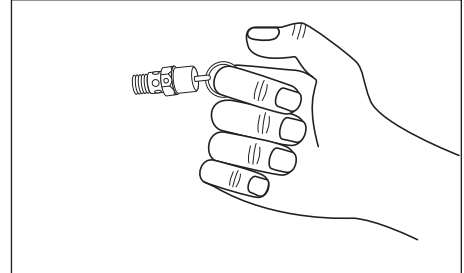

Figure 3 - ASME Safety Valve
2. Wearing safety glasses, pull the ring on the safety valve (see Figure 3) to release pressure from compressor tank. Use your other hand to deflect fast-moving air from being directed toward your face.